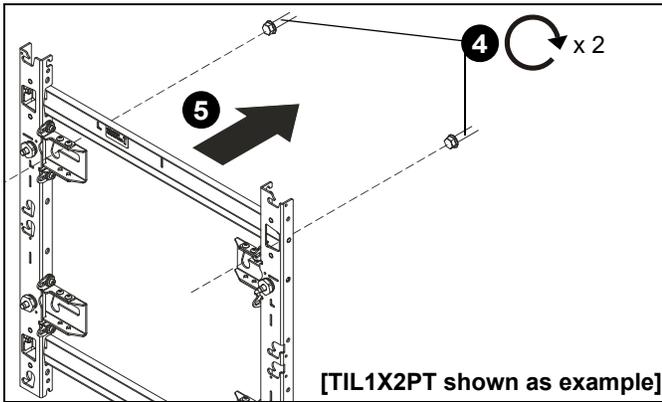

Figure 7
- Partially install two fasteners into wall, but do NOT completely tighten to wall. (See Figure 7)
- Hang wall mount, aligning upper mounting slots over fasteners, and adjust side-to-side for proper location. (See Figure 7)